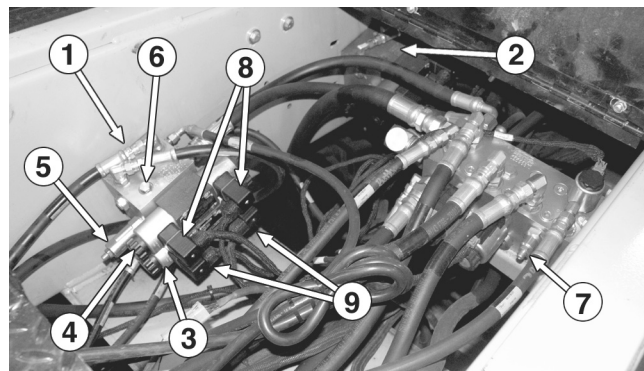

Figure 27. Gate/Hopper Manifolds
2) Disconnect the electrical connectors from the gate valves (Fig 27). Make sure that all conveyor, auger and spreadroll switches are all in the “off” position before starting the engine. Make sure the shutoff valve is shut. Failure to do so could result in a blown gage. back the standby pressure relief valve out 2 turns. Start the engine and run it at low idle. Open the shutoff and monitor the gage pressure.
5) Install a 5000 psi gage in the port marked “G” on the right gate manifold (Fig 27) located between the conveyors. On the front pump back the high pressure relief valve out about 2 turns.
10) Reconnect the electrical connectors from the gate valves (Fig 27).
1) Install a 1000 psi gage, with a shutoff valve in the port marked “G” on the left gate manifold (Fig 27) located between the conveyors. This port is SAE 04 and requires a 9/16" wrench to remove the plug.
5) Install a 5000 psi gage in the port marked “G” on the left gate manifold (Fig 27) located between the conveyors. On the rear pump back the high pressure relief valve out about 2 turns.